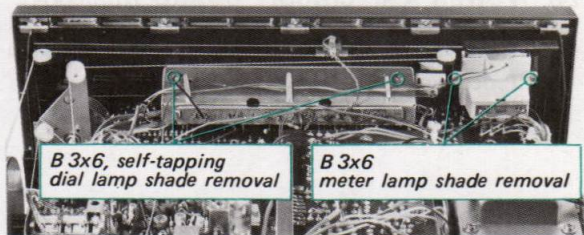

Fig. 2-11. Tuner input meter and dial lamp shade replacement
2. Remove the two screws securing the meter lamp shade to the front subchassis as shown in Fig. 2-11. This frees the meter lamp shade.
3. Remove the two screws securing the dial lamp shade to the front subchassis as shown in Fig. 2-11.